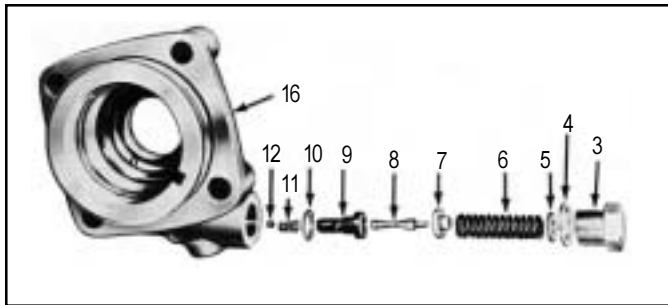

FIGURE 30
### VALVE BODY (REFER TO FIGURE 30)
1. Place the valve body(16) in a vise and lightly tighten on the cast surface. Install the ball(12), spring(11) valve seat(9) and the copper/seal washer(10). Tighten with an appropriate screwdriver to a torque of 200 in. lbs. (See Figure 30)